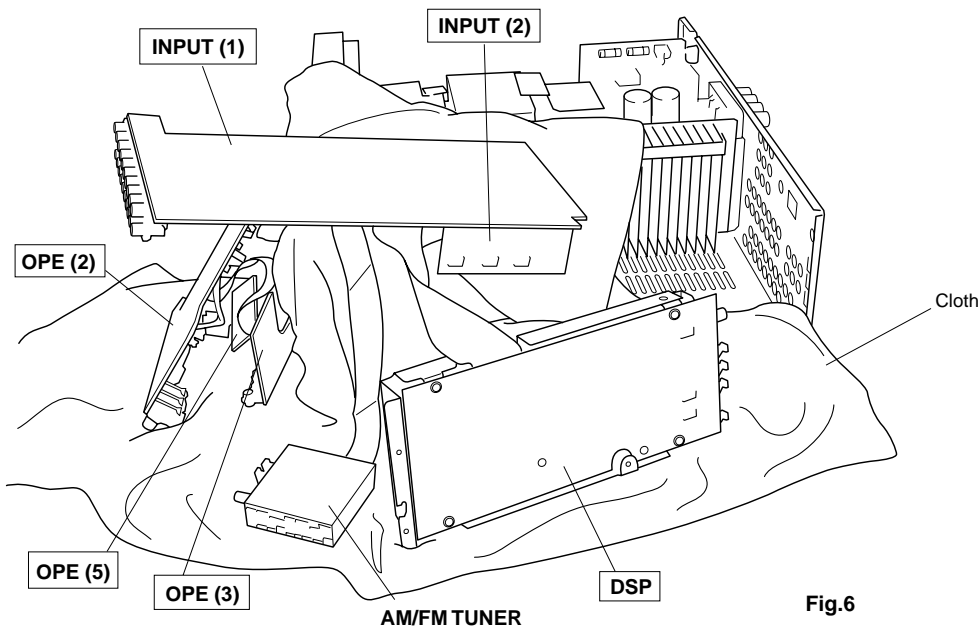

Fig.6
- g. Place the INPUT (1)/(2) P.C.B. as shown in Fig. 6 and check them for operation.